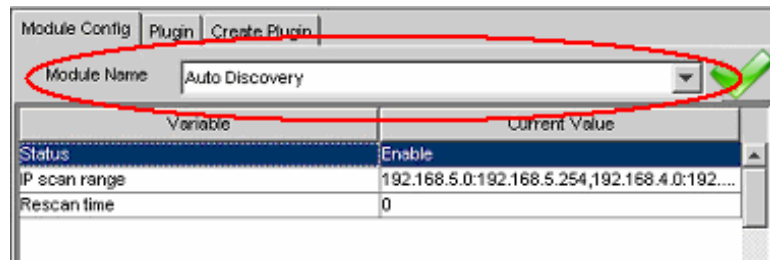

Figure 4-45: Auto Discovery Option
Step 1. Open the **Module Configuration** page. Use the **Module Name** pull-down menu to select Auto Discovery option. (See *Figure 4-45*)